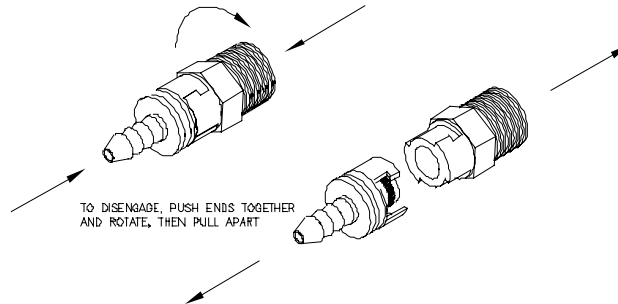

Figure 3: Quick Disconnect Fitting at Flowmeter
- 4) Pull the sensor assembly forward a few inches and disconnect the "quick-disconnect" fitting at the top of the flowmeter (for standard downstream sensor configuration) by pushing both halves of the fitting together and rotating one to the release position. See Figure 3.
The flats on the inlet bulkhead fitting are oriented to seat in an anti-torque plate on the inside back of the enclosure. When re-installing the Sensor Assembly, be sure the flats on the bulkhead fitting properly seat in the slot of the anti-torque plate before replacing the retainer nut. See Figure 3 below.